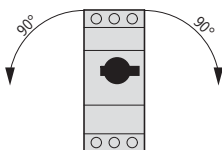

Figure 7: Permitted mounting position of the PKZM4/XTPR...DC1 motor-protective circuit-breaker
- Mount the motor protective circuit breaker only as shown in fig. 7.